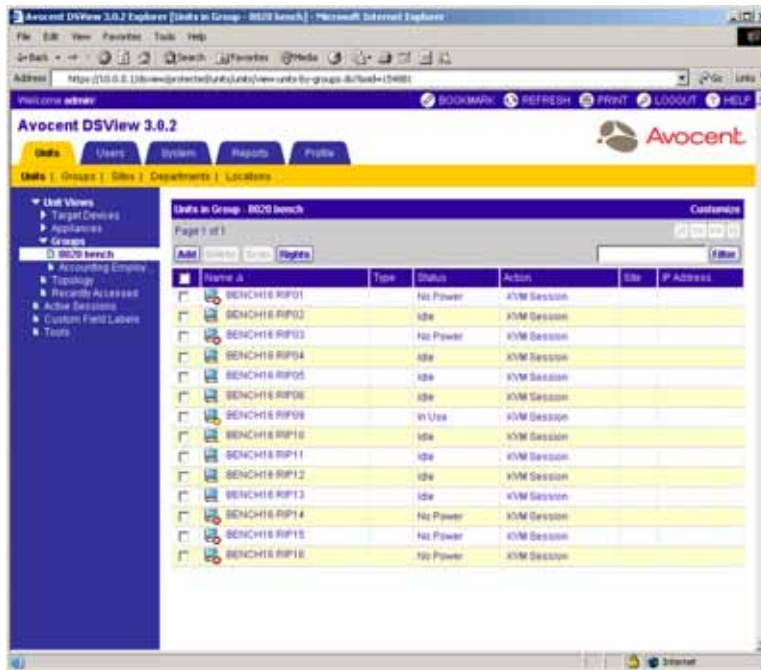

Figure 9.19: Units in Group Window
- In Figure 9.19, for example, Accounting Employees is assigned as the group name. The window is named Units in Group - Accounting Employees and contains only those managed appliances that are assigned to the group.